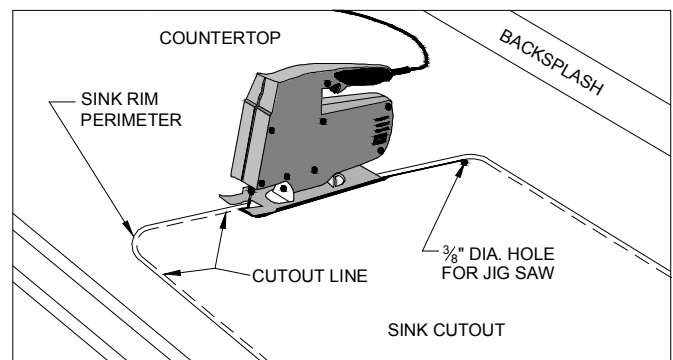

Figure 1D
- Using the jig saw, cut along the cutout line. (FIG. 1D)